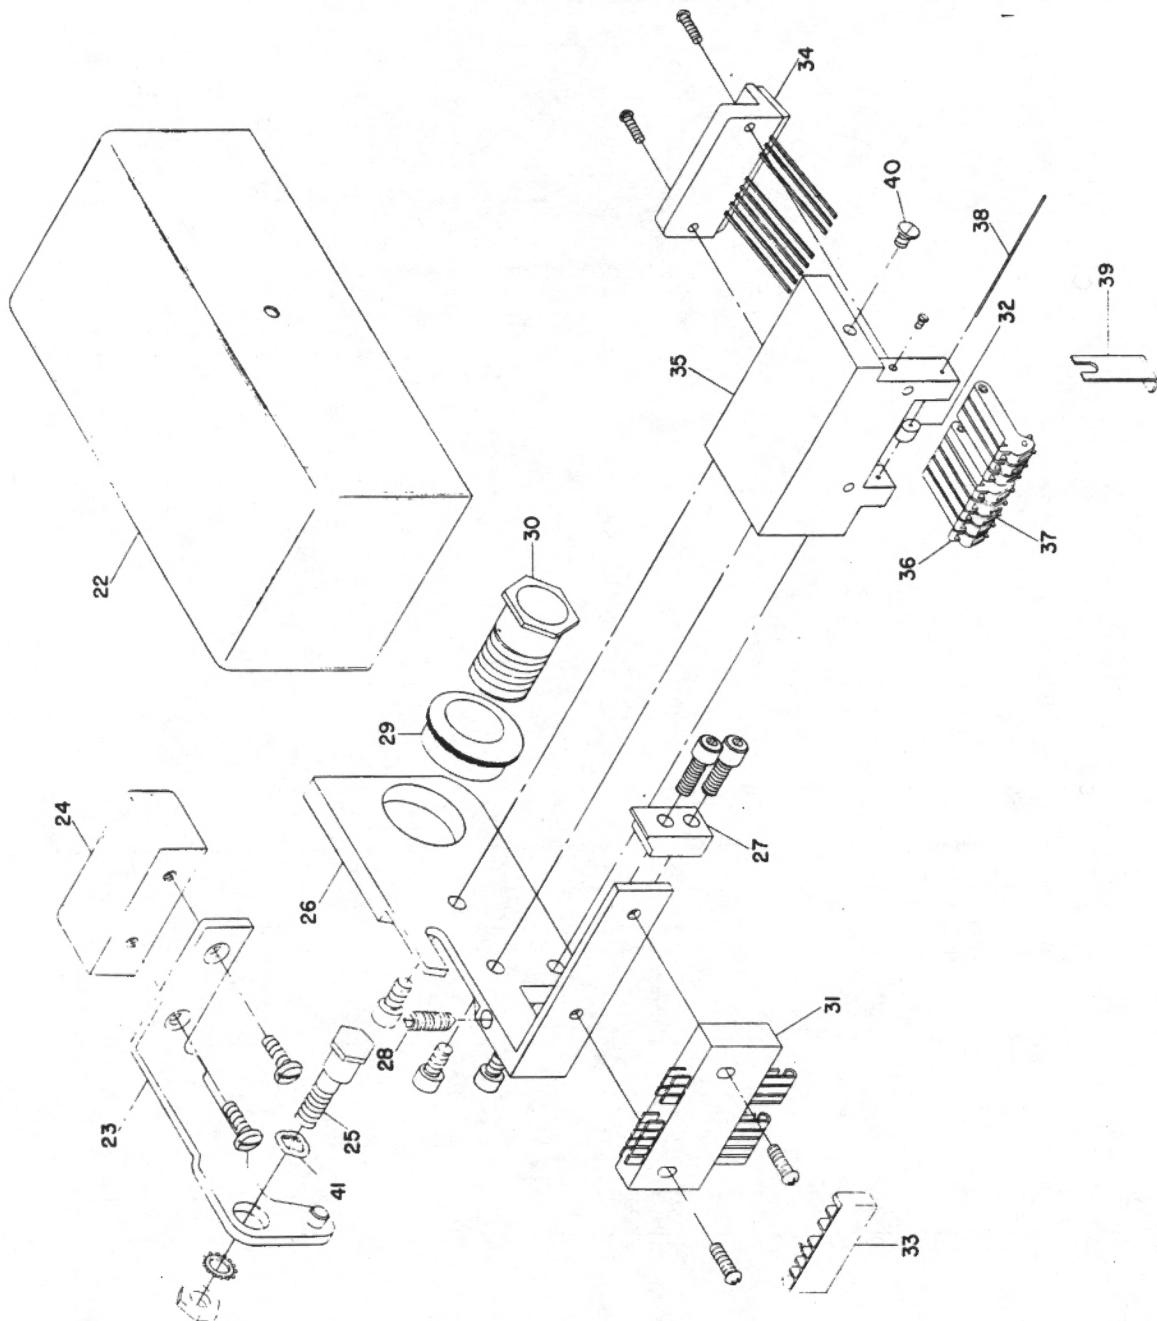

Figure 13. Tape Read Head, Exploded View
5.2.3 Read Head and Contact Adjustments (See Figure 13)
Insert no-hole tape in the read head, and apply down force on the wires with the gram gage and wire tool to check upper contact pressure as shown in Figure 14b. Upper contact pressure is increased by lowering the read head through use of the depth adjusting screw (28), Figure 13, and the lever eccentric (25).
The lift lever should be adjusted so the lifting stud passes over center with the lever down firmly against the base plate. If adjustment is required, loosen the eccentric bolt, and turn the eccentric (25, Figure 13) so the lever locks over center.